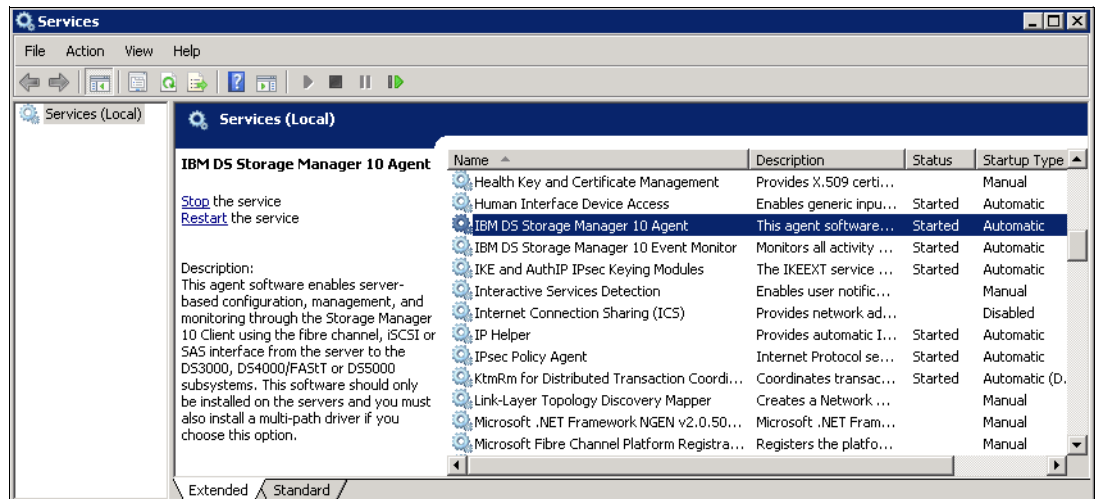

Figure 3-11 Verifying the SMagent installation
2. Scroll through the list of services until you find IBM DS Storage Manager 10 Agent as shown in Figure 3-11.